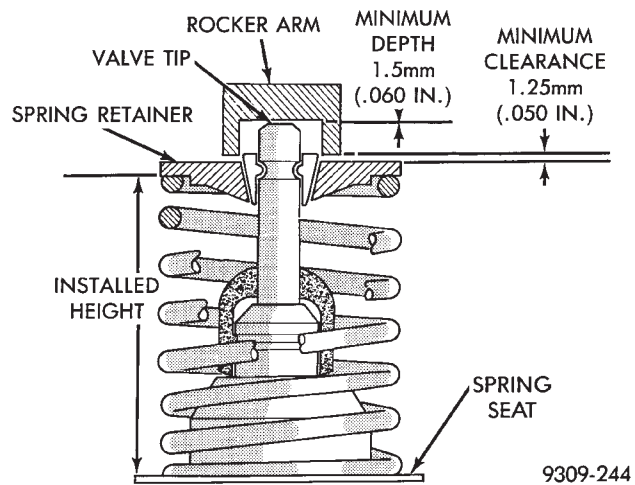

Fig. 25 Checking Spring Installed Height and Spring Retainer Clearance
(8) Check the valve spring installed height after refacing the valve and seat (Fig. 25).
(4) Check installed height of springs. Measurement is to be taken from the lower edge of the valve spring to its upper edge. Do not include the spring seat or retainer flange. Correct height is 41.2mm to 42.7mm (1.62 to 1.68 inches). If seats have been reground an additional spring seat may be required to maintain correct installed spring height.
(5) Install adjusters, rocker arms in order, and camshaft as previously described, see Camshaft-Install. Check for clearance between the projecting ears (either side of valve tip) of the rocker arms and the valve spring retainers. At least 1.25 mm (.050 inch) clearance must be present, if necessary, the rocker arm ears may be ground to obtain this clearance (Fig. 25).